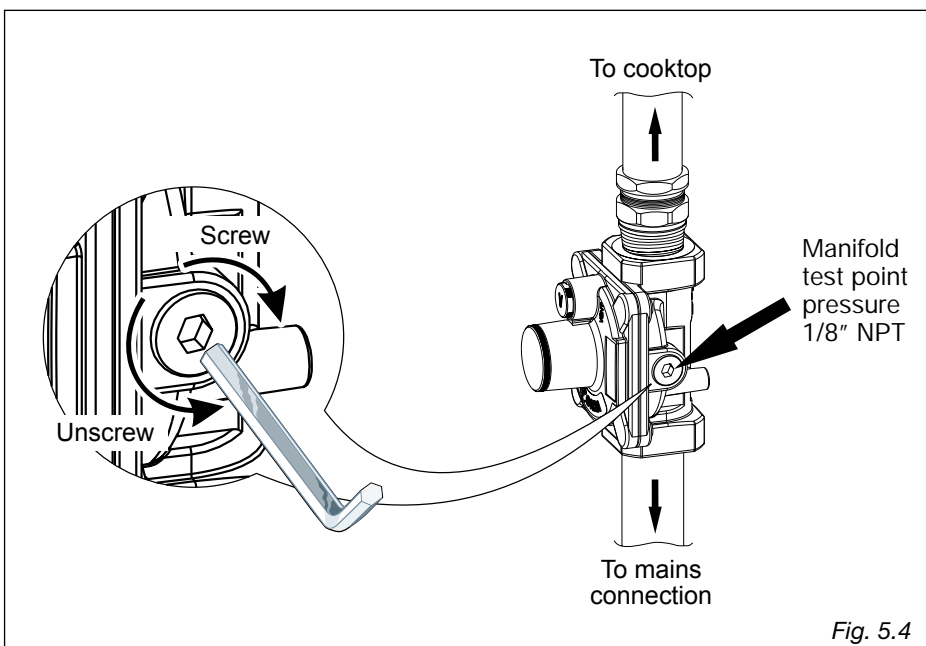

Fig. 5.4
- d) Manifold pressure should be checked with a manometer; NATURAL gas requires 4.0" W.C.P. and LP/PROPANE requires 11.0" W.C.P. (see figure 5.4).